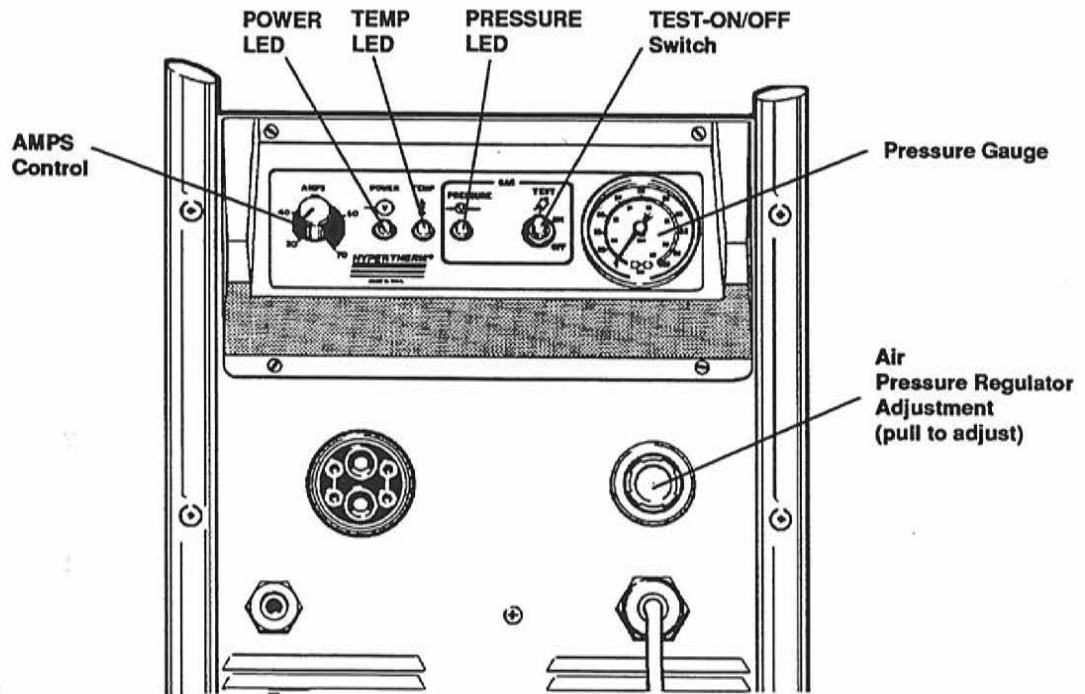

Figure 4-1 Control Panel and Front Panel Controls and Indicators
### Control Panel (Fig. 4-1)
### Front Panel (Fig. 4-1)
6. Set power circuit breaker (S1) on the rear panel to ON (I). The INPUT POWER LED should light. The TEMP and PRESSURE LEDs should remain off (see Figs. 4-1 and 4-2).